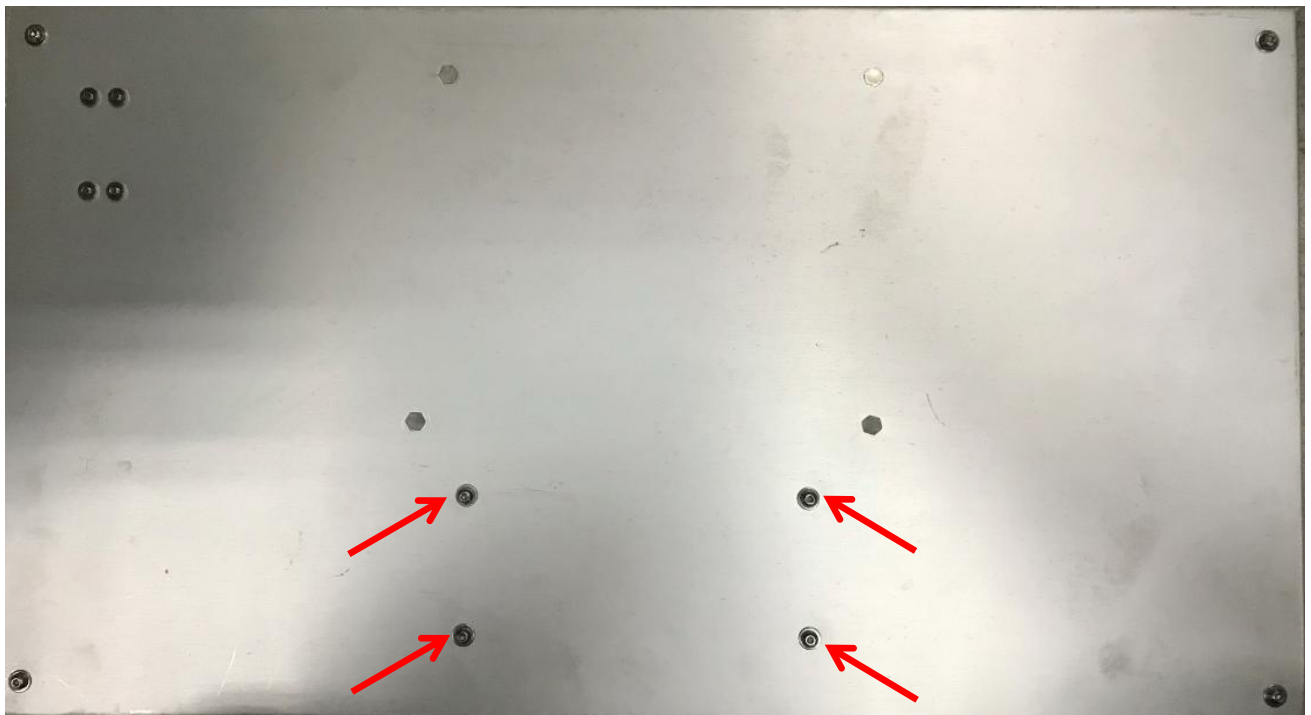

Figure 20 Trigger Board Power Assembly
5. Flip the Trigger Board Tray. While attach trigger board power supply at bottom ,tighten 4 x Screws as below Figure 20